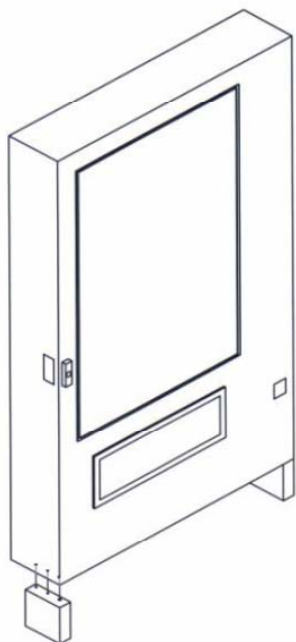

Figure 4.2 False Leg Installation
The False Leg helps to prevent the machine from tipping forward when the vendor door is open and one or more bottle trays are extended. Failure to install the false leg on vendors with bottle trays may result in serious injury (Refer to Figure 4.2).
1. Align the holes in the top of the false leg with the 1/8" holes on the left side of the bottom of the door (Refer to Figure 4.2). The closed end of the false leg should be facing forward.